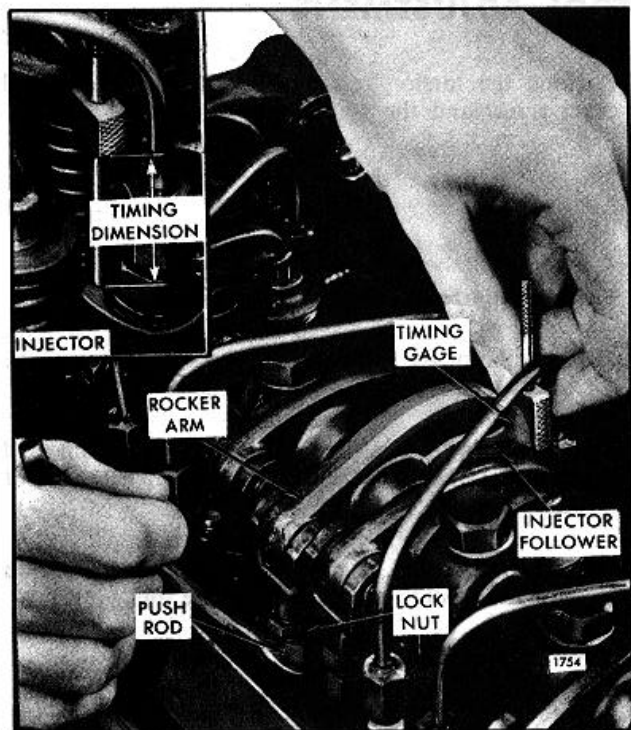

Fig. 1 - Timing Fuel Injector
3. Place the small end of the injector timing gage in the hole provided in the top of the injector body with the flat of the gage toward the injector follower (Fig. 1). Refer to Table 1 for the correct timing gage.